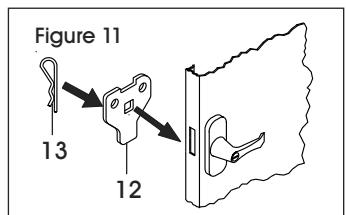
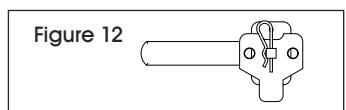

Figure 11
Figure 12
2. Turn the handle to the open position. Place the locking cam (12) over the square shank of the door handle. The latch must be facing downward as shown. (See Figure 11) Place the cotter pin (13) through the hole of square shank. (See Figure 12)